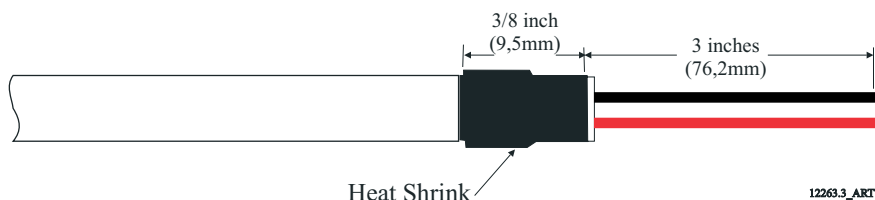

Figure 4-11: Two-Conductor Power Cable
- E Strip back 3 inches (76,2mm) of the PVC jacketing. Refer to Figure 4-11: Two-Conductor Power Cable